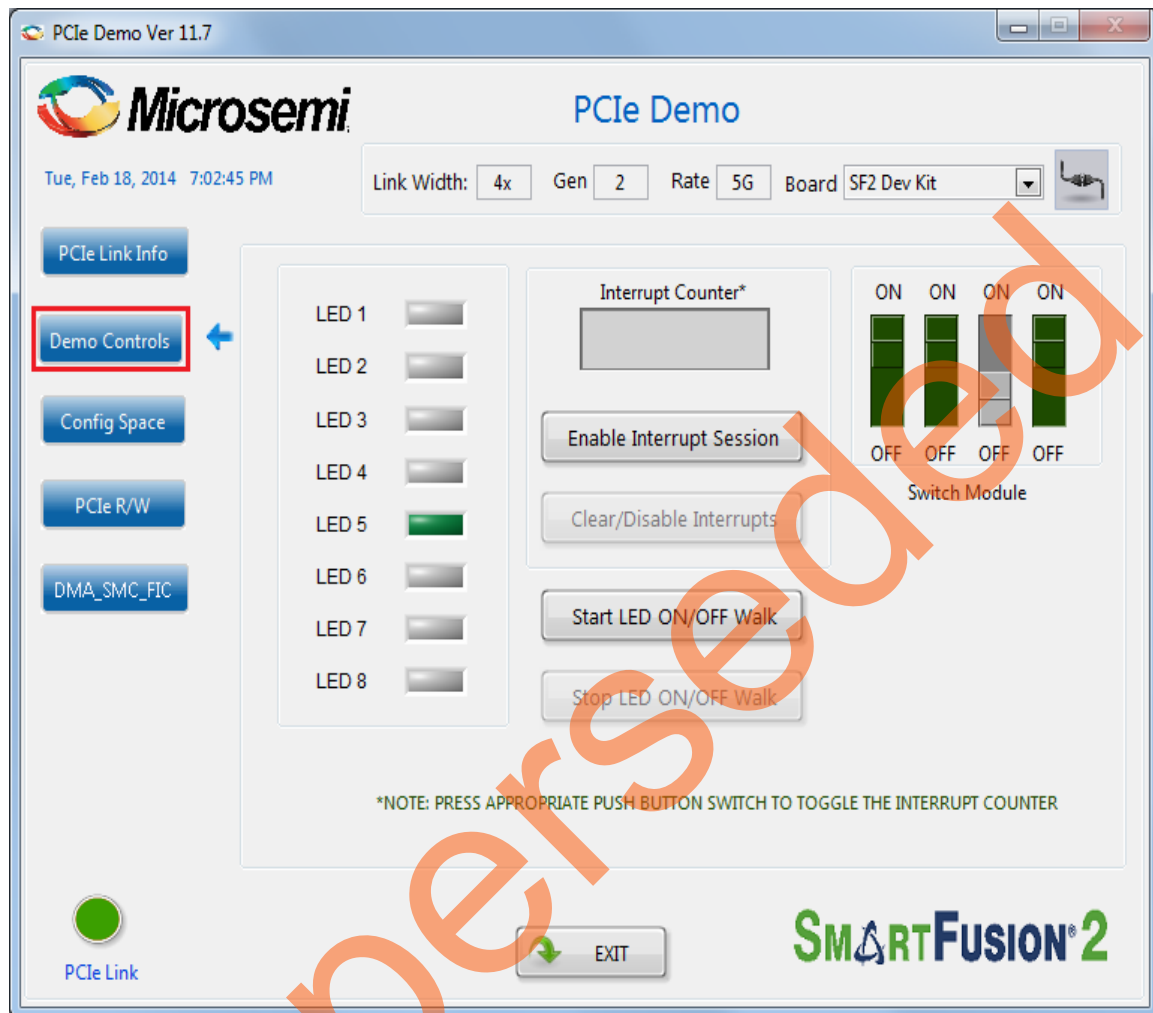

Figure 20 • LED Options and DIP Switch Positions in Demo Controls
- Click **Demo Controls** to display the LEDs options and DIP switch positions. Figure 20 shows the LED options and DIP switch positions in **Demo Controls**.